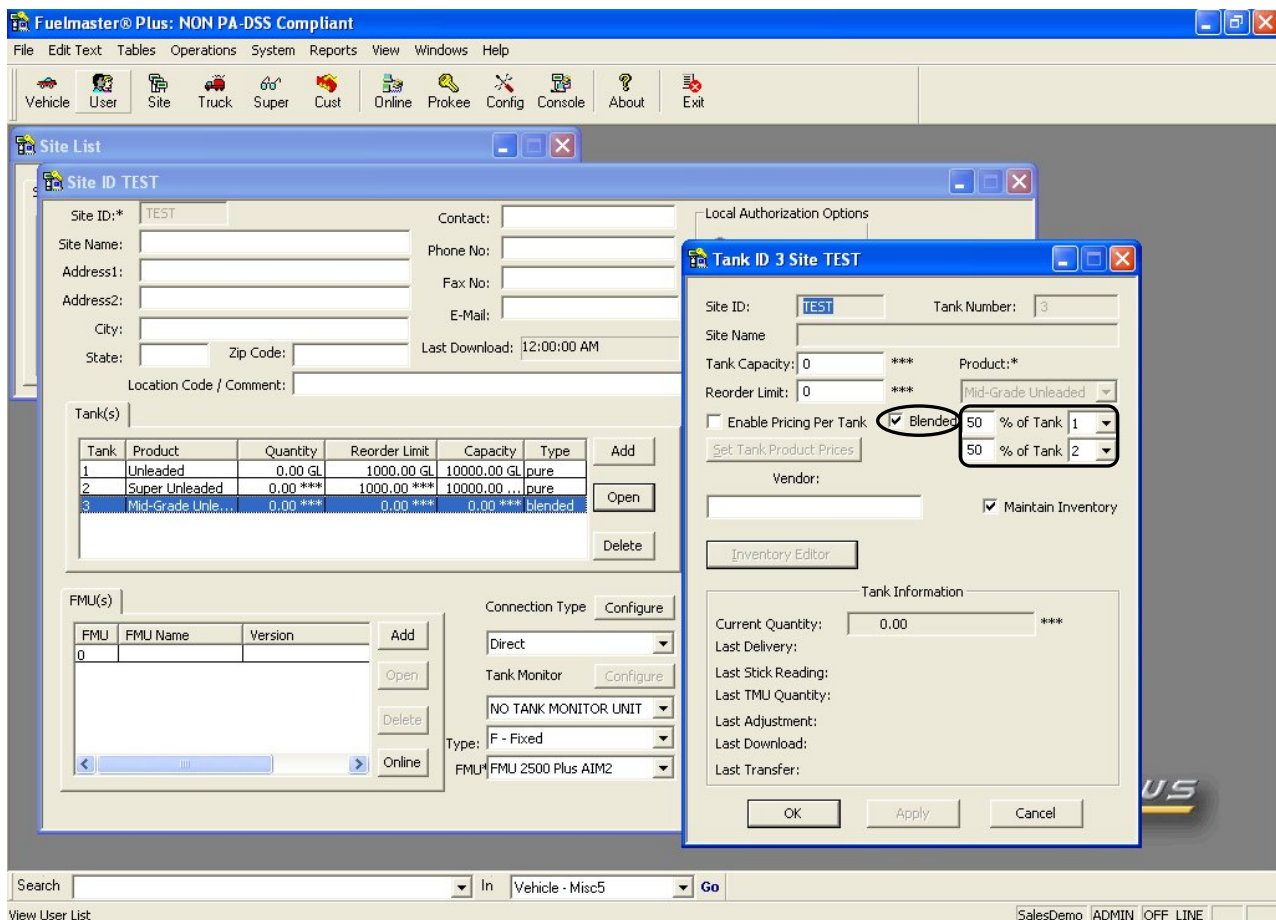

Figure H-8. Adding a Blended Tank
5. **Add/Configure Tanks** (see Figure H-8): in the **Site ID** window, tanks must be present or added for the desired unblended and blended products.